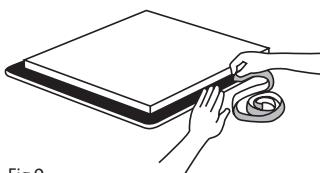

Fig.9
2. Position the hob seal, as shown in Fig.9, ensuring that the ends meet without overlapping. Do not use silicone type sealant.